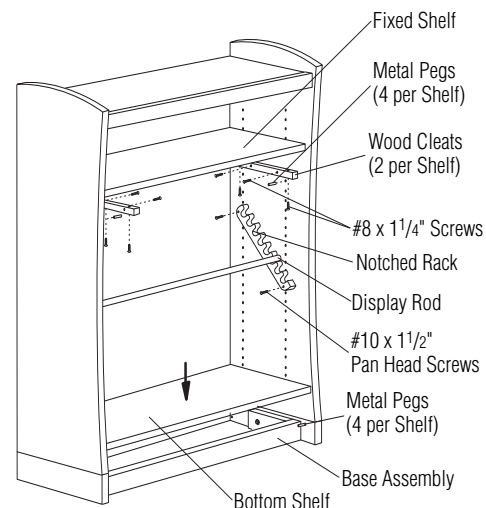

Figure 7
11. Bottom shelf. Insert (4) metal pegs into pre-drilled holes just above the base assembly. Lay bottom shelf with routed side down and align onto metal pegs (Figure 7).
12. Attach wood cleats to the bottom side of the fixed shelf using $\#8 \times 1\frac{1}{4}$ " screws. One cleat is needed for each side of shelf. Rest shelf on four metal pegs. Attach fixed shelf with cleats to the end panels using $\#8 \times 1\frac{1}{4}$ " screws (Figure 7). **Note:** for 60" high units, fixed shelf is approximately $43\frac{1}{4}$ " from top of the bottom shelf. For 82" high units, fixed shelf is approximately $50\frac{13}{16}$ " from top of the bottom shelf.
13. Adjustable shelves for 82" high units only. Insert (4) metal pegs into pre-drilled holes at desired adjustable shelf heights. Set each shelf onto the metal pegs with routed side down (routed grooves rest on pegs) (Figure 7). **Note:** each 82" high unit has one adjustable shelf and one fixed shelf. Each 60" high unit has only the one fixed shelf.